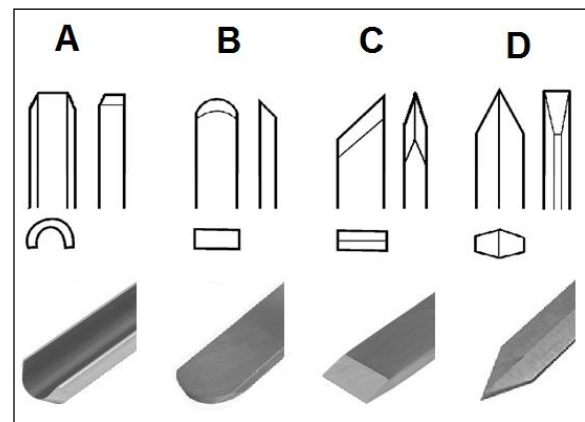
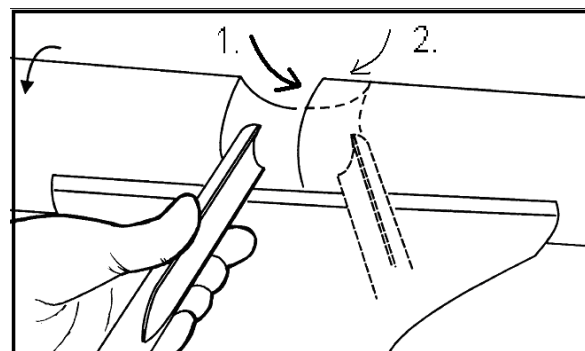
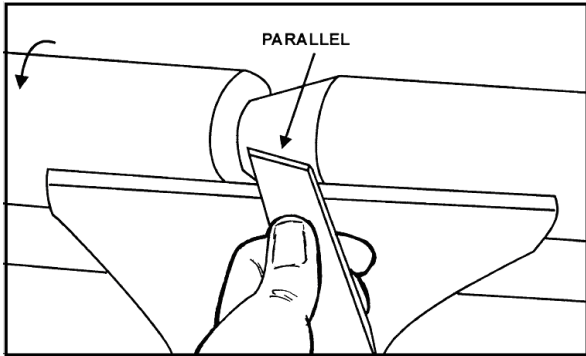

Fig 9
Fig 10
Fig 11
**Gouge (A, Fig 9)**, used for rapidly cut raw wood into round stock, for turning bowls and plates, for turning beds, coves and other detail (Fig 10).
**Scraper (B, Fig 9)**, used for diameter scraping and to reduce ridges.
**Skew Chisel (C, Fig 9)**, used to make vees, beads, etc. (Fig 11). The bevel of skew is parallel to the cut.
**Parting tool (D, Fig 9)**, used to cut directly into the material, or to make a cut off. Also used for scraping and to set diameters.